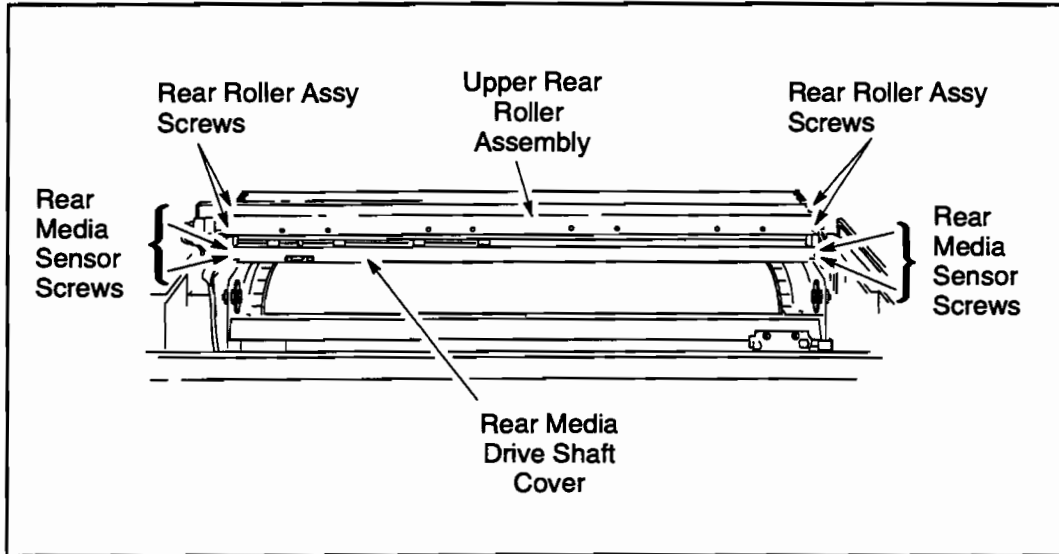

Figure 6-86. Rear Roller Assembly (Viewed from the Rear)
6. Remove the four screws in the upper rear roller assembly. See Figure 6-86.
3. Remove the four screws in the upper rear roller assembly. See Figure 6-86. Carefully lift the assembly up and out of the plotter being careful not to damage the rear media sensor arm.